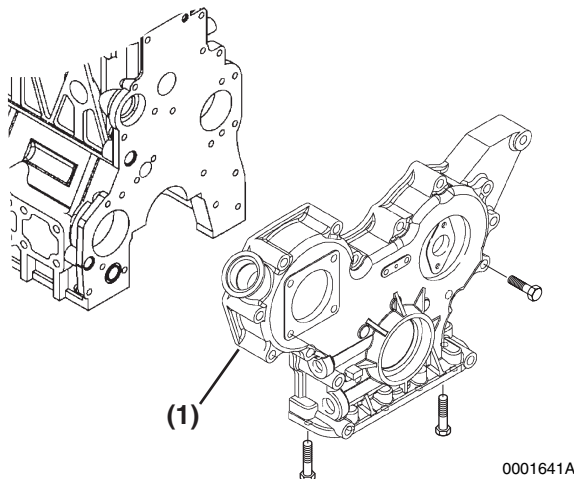

Figure 6-144
1. Apply a continuous bead of ThreeBond Liquid Gasket No. 1212, Yanmar Part No. 977770-01212 to the mounting area of the gear case cover (**Figure 6-144, (1)**). Be sure to circle the bolt holes.